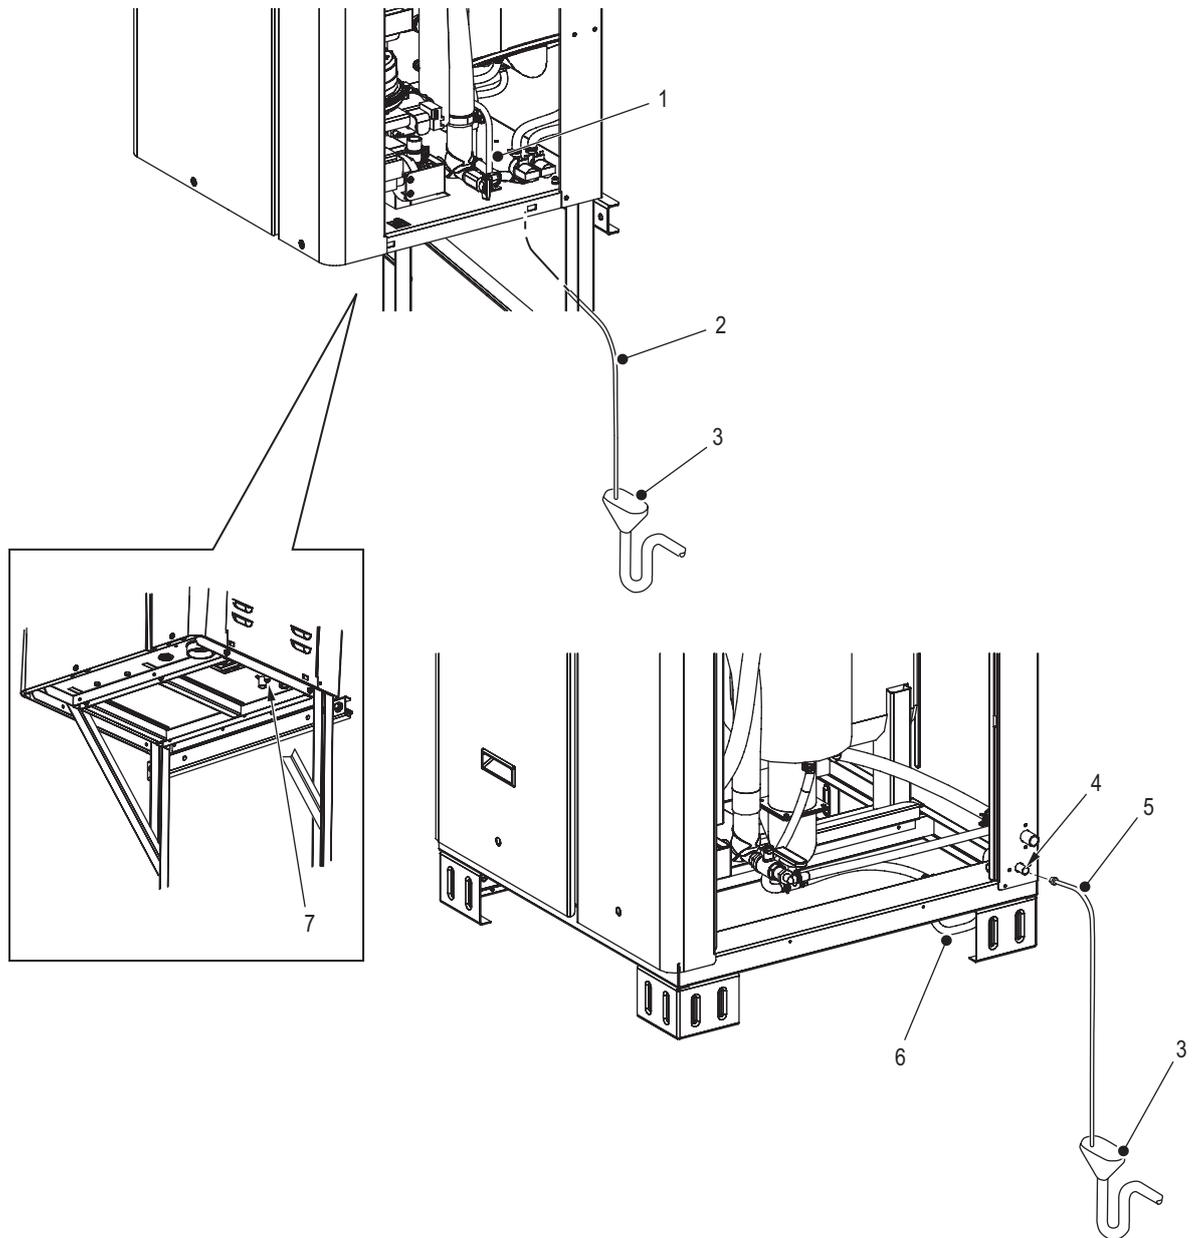

Figure 16: Exhaust Condensate Drain Line (CS Model Only)
Install the condensate drain line (CS model only) as shown in Figure 16.
- Install the exhaust condensate hose (CS model only), and secure it with a hose clamp – refer to Figure 16 on page 37. The hose must be rated for 100 °C. Connect the hose to a condensate neutralization device, if required by local code, before connecting the hose to a drain.